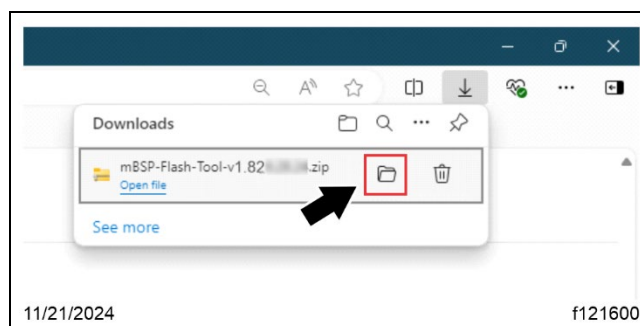

Fig. 25, mBSP Flash Tool Zip File Downloaded
- 5.3. The zip file is downloaded on your local hard drive and a 'Downloads' panel appears at the top-right corner of the browser. See **Fig. 25**.
- 5.4. Select the 'Show in folder' button, shown in **Fig. 25**. The location where the zip file is saved opens in File Explorer.